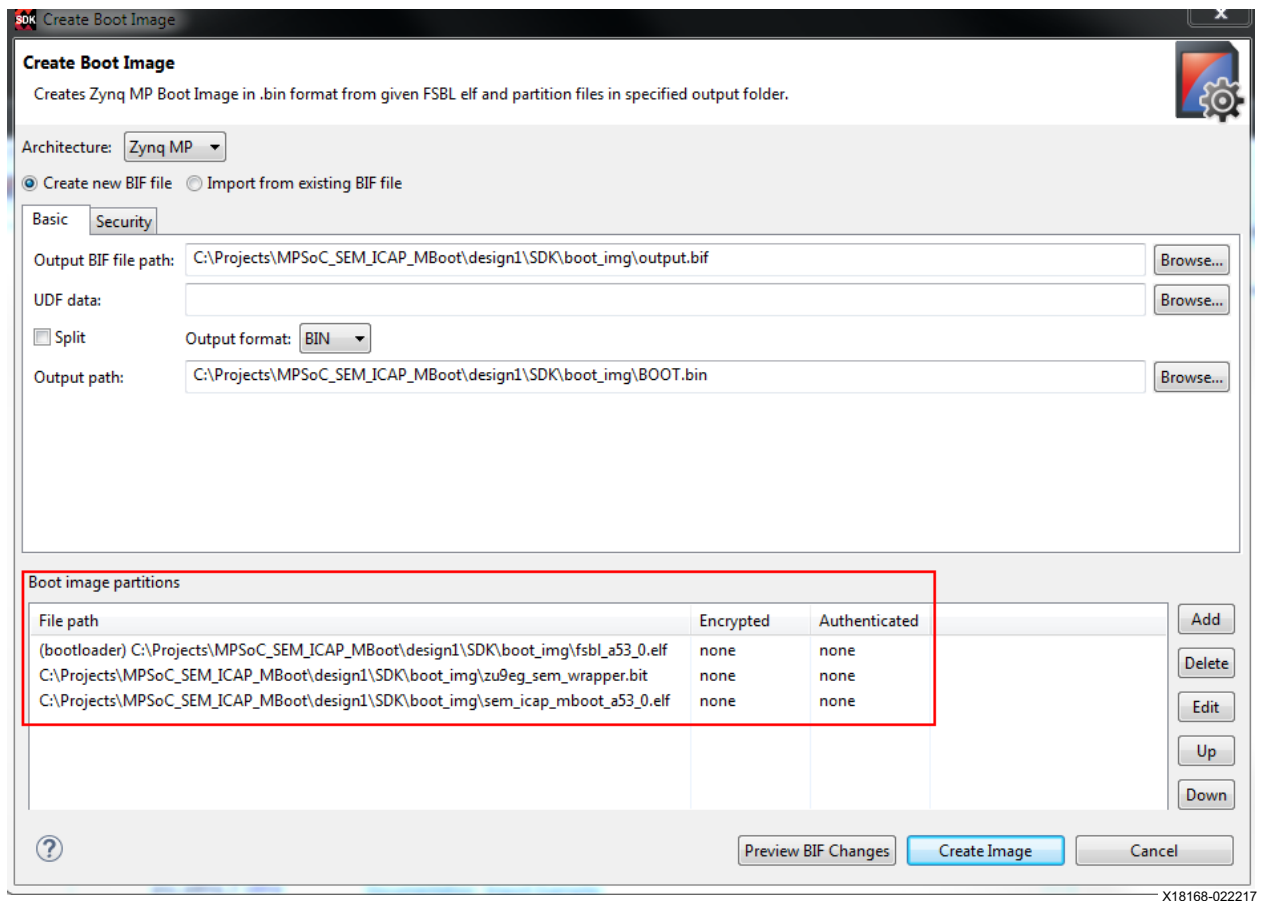

Figure 17: Design 1 - Create Boot Image
10. Verify the Boot image partitions paths. See Figure 17. Click **Create Image**.